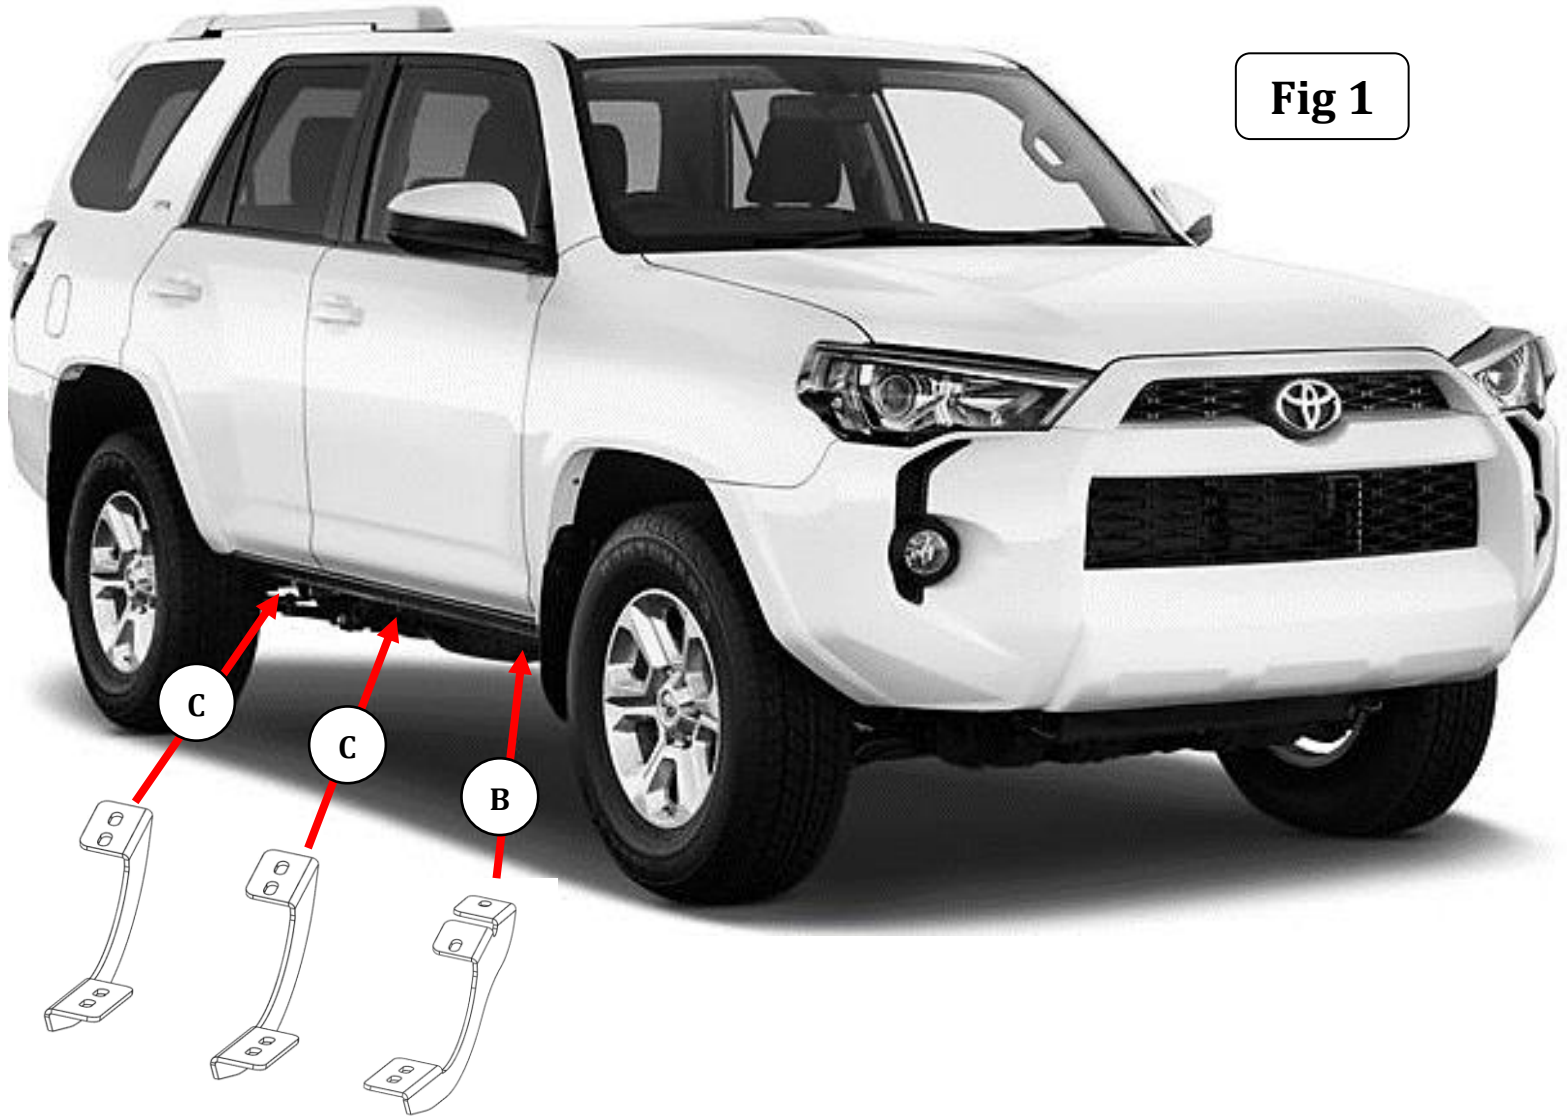

Fig 1
This RB Running Board bracket kit installation uses (3) brackets per side, (Fig 1).